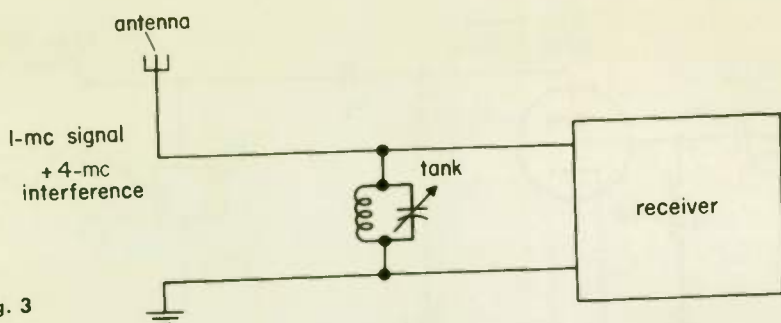

Fig. 3
1. A parallel tank circuit has a very (a) (*high*) (*low*) impedance near its resonant frequency and a very (b) (*high*) (*low*) impedance at other frequencies. You are listening to a 1-mc broadcast signal on a receiver and find that a 4-mc signal is interfering with the signal you desire to listen to. A tank circuit you have on hand has an impedance of 200,000 ohms at 1 mc and an impedance of 5 ohms at 4 mc. You connect the tank circuit as shown in Fig. 3. The 1-mc signal will then see (c) _____ kilohms of impedance shunted across the input of the receiver by the tank. The 4-mc interference will see (d) _____ ohms of impedance shunted across the input. The 4-mc interference signal will then rather flow through the (e) _____ circuit than the receiver input, and this interfering signal will essentially be shorted to ground. The 1-mc input signal is not shorted to ground, since the impedance of the tank circuit is very high at 1 mc. If the interfering signal had a frequency of 1.001 mc, would this circuit eliminate the interference? (f) _____
4. You desire to amplify the input signal to a radio receiver at a frequency of 2 mc and at the same time prevent amplification of unwanted interference which has a frequency of 1 mc. You could use the amplifier of Fig. 3 provided you tuned the tank circuit to a frequency of _____ megacycles.